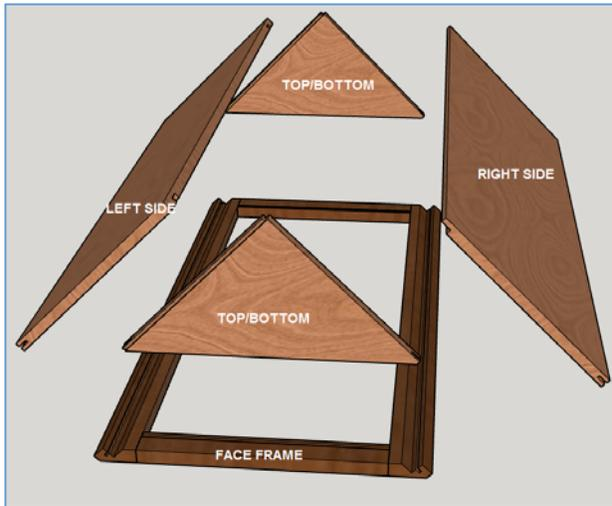

Fig 1. Stile
2. APPLY GLUE TO FACE FRAME AS SHOWN ON FIG 1.